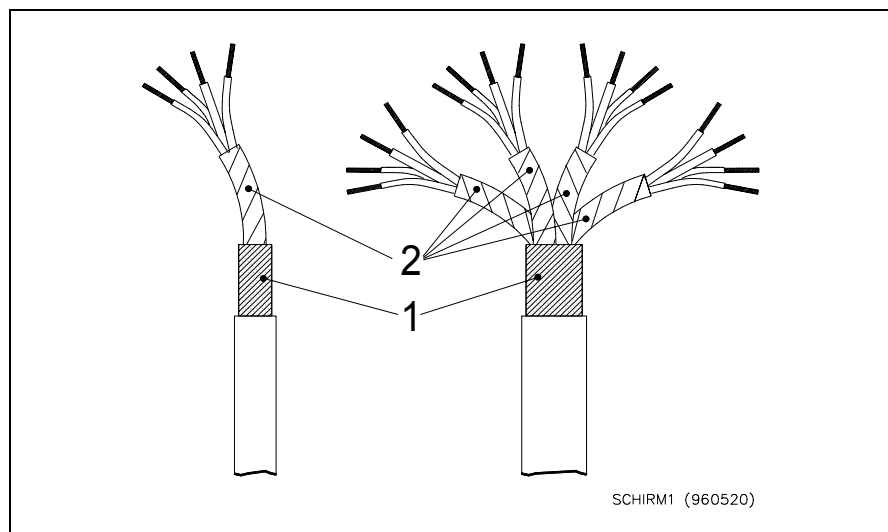

Figure 1:
Double-shielded cable is recommended, e.g. with an overall shield (1) of copper foil and individual shields (2) of copper or aluminium foil (see Figure 1).